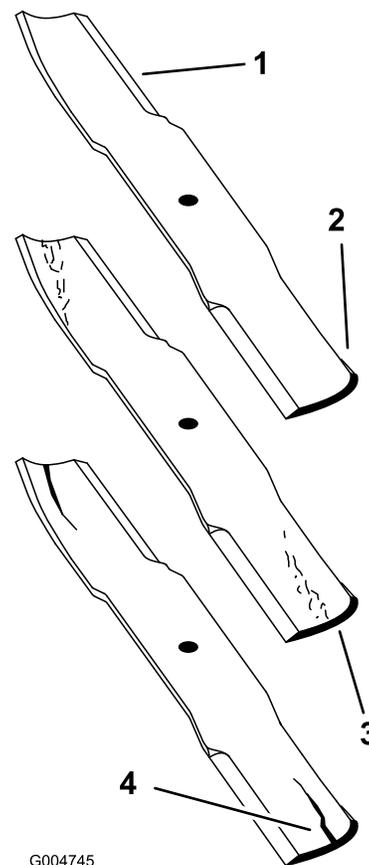

Figure 62
1. Inspect the cutting edges (Figure 62). If the edges are not sharp or have nicks, remove and sharpen the blades. Refer to Sharpening the Blades.
2. Inspect the blades, especially the curved area (Figure 62). If you notice any cracks, wear, or a slot forming in this area (item 3. in Figure 62), immediately install a new blade.